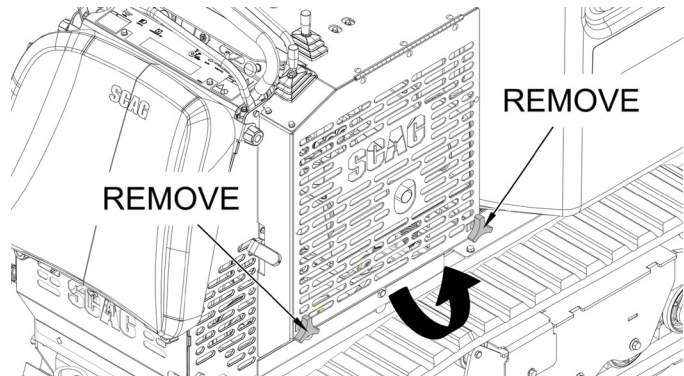

Figure 6-5. Engine Guard Removal
1. Remove the two knobs securing the engine guard to the machine. See Figure 6-5.